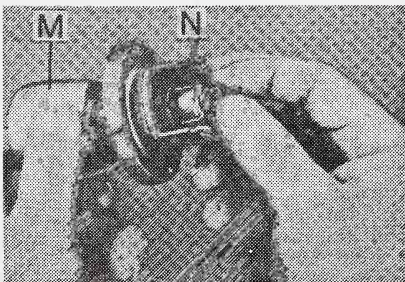

Fig. 10-8.
8. Refer to Fig. 10-8. To remove the wafer keyway unit (N) from the lock, push in on the face of the wafer keyway unit from the outside knob (M). The unit will then slide inward, where it can be removed from the knob assembly.